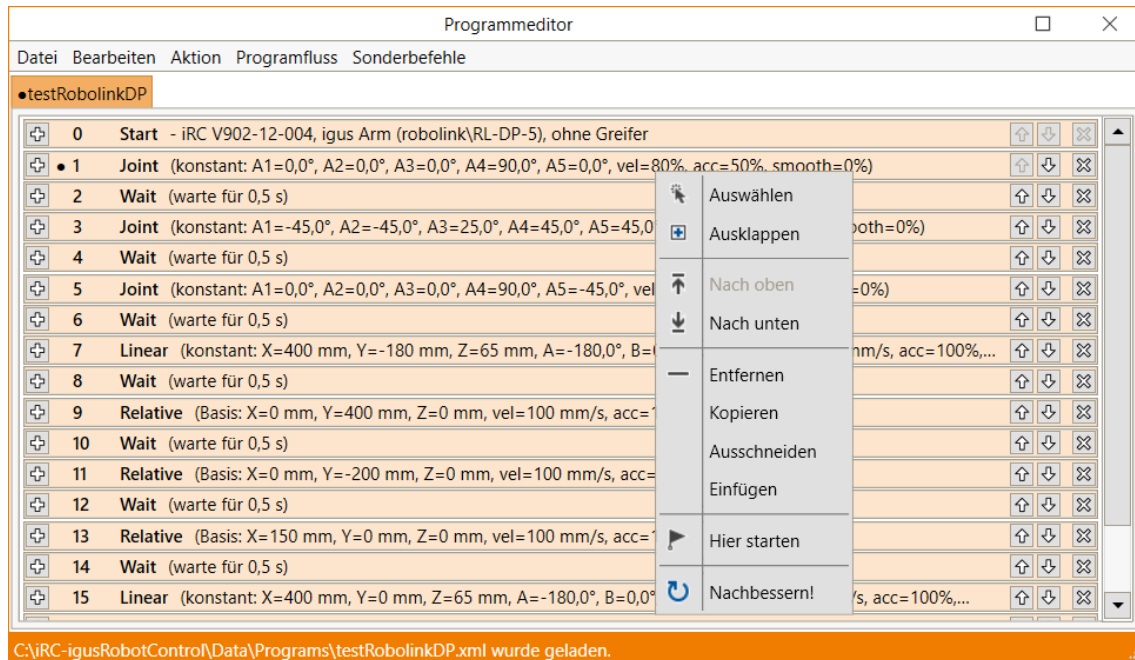

Figure 26: The context menu of a command
To move a command, use the arrows on the right side of the command line. Alternatively, you can click "Down" or "Up" from the command context menu (see Fig. 26).
- Open the context menu by right-clicking on the command and click on "Touch Up!" (see Fig. 26).
To select a specific command as the starting point for execution, click on "Start Here" in the context menu (see Fig. 26).